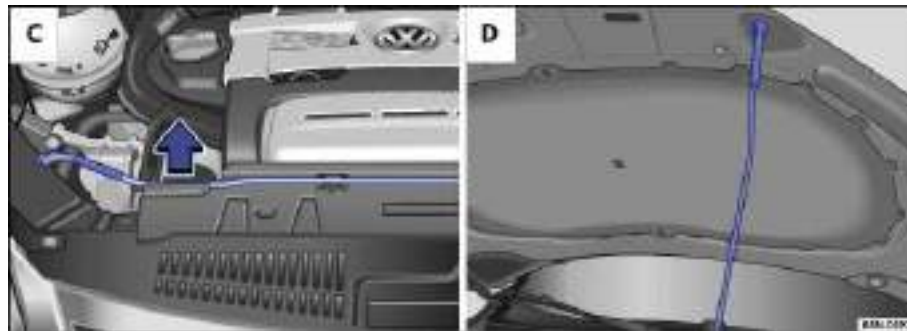

Fig. 163 A: Bracket for hood support in the engine compartment. B: Hood propped open.
- Pull the hood support out of its bracket in the direction of the arrow ⇒ fig. 163 **C** and insert it into the opening in the hood **D**.